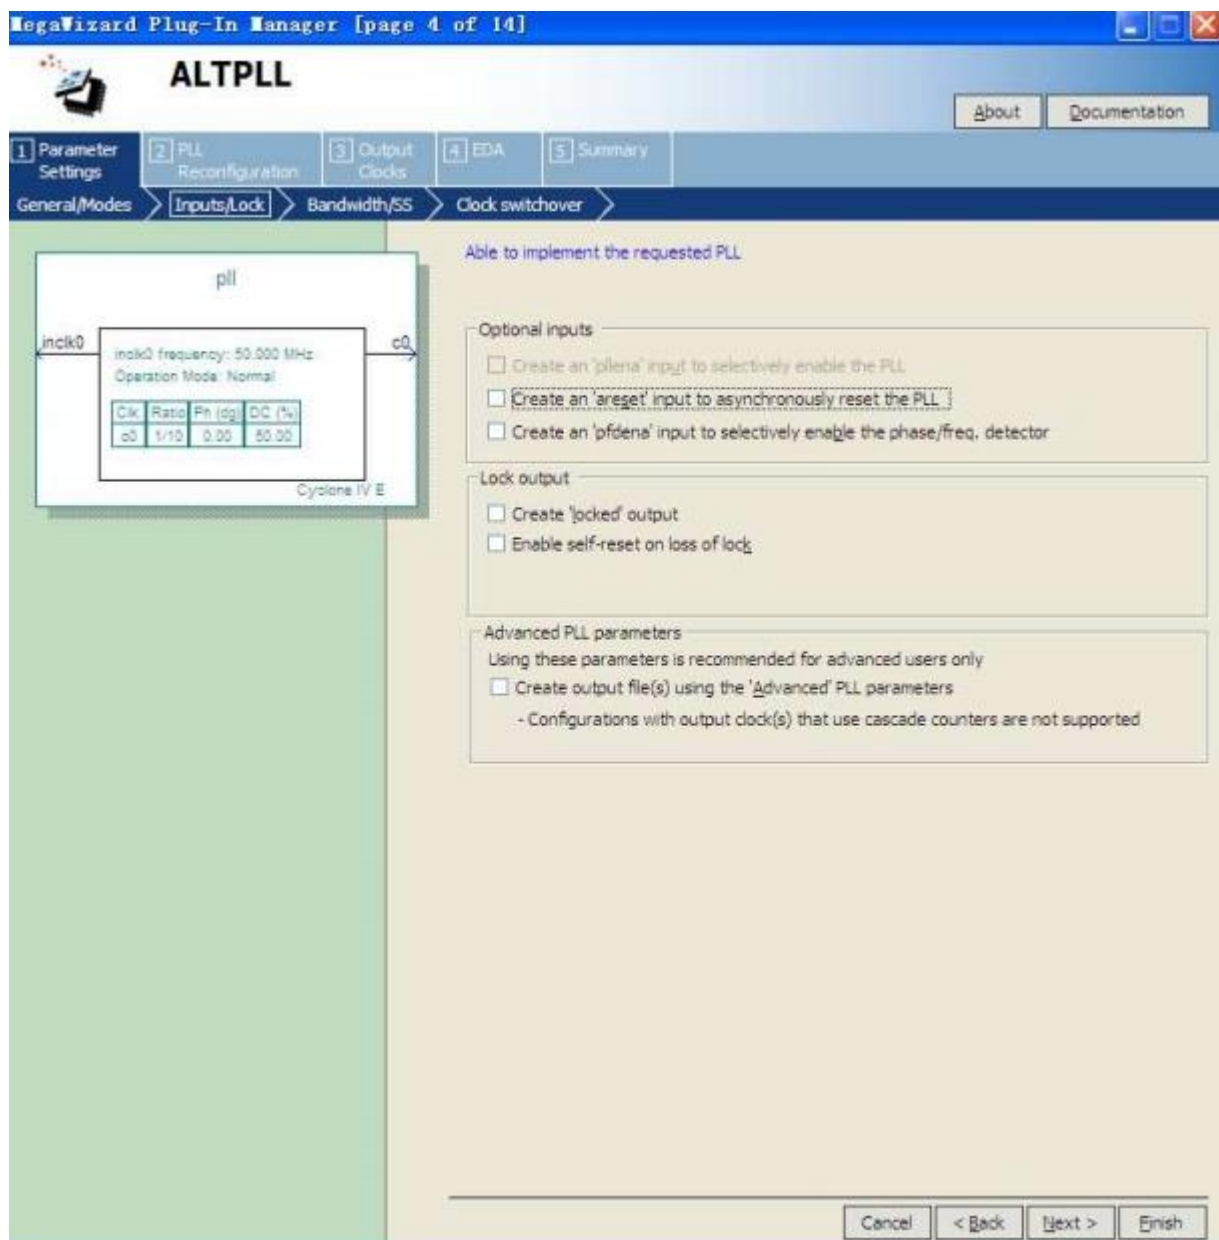

Figure 3-11 MegaWizard Plug-In Manager [page 4 of 14] Selections
6. Turn off all options on MegaWizard page 4. As you turn them off, pins disappear from the PLL block's graphical preview. See Figure 3-11 for an example.